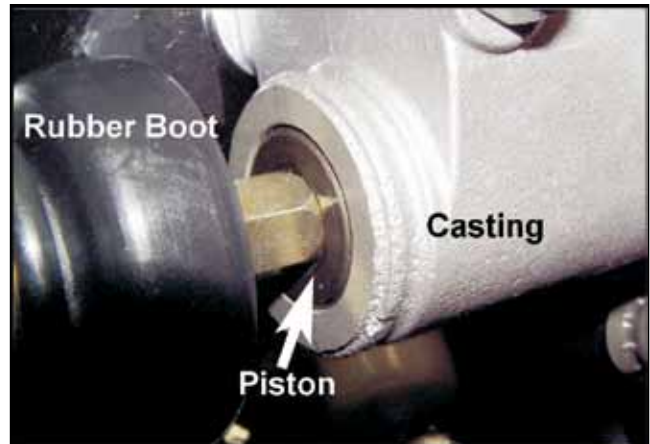

Figure 7-16. Location of piston.
2. Pull back the rubber boot at both master cylinder plunger pins and check each piston location relative to the face of the master cylinder casting as illustrated in Figure 7-16. Use a straight edge against the face of the casting to ensure the piston is between zero and 0.020" (0.5 mm) depth in the master cylinder.